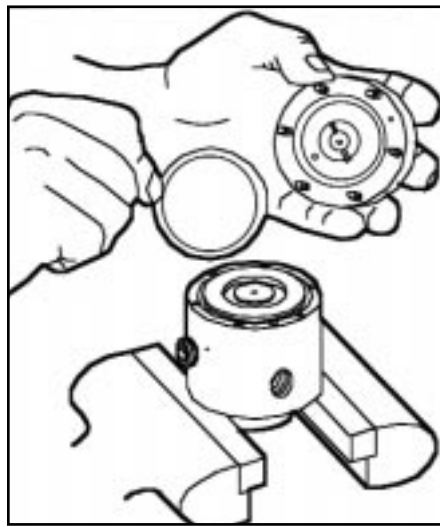

Figure 9
3. With a 5/32" allen wrench remove the six (6) 10-32 allen head cap screws that secure the upper and lower valve body halves. Then remove the valve body, the top diaphragm and valve body O-ring (V-006). (Fig.9)